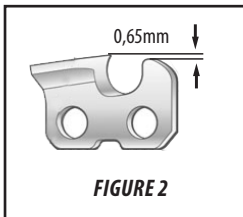

FIGURE 2
- After each cutting link has been grinded, check the groove depth and grind it to a good level, as shown in the Figure 2.